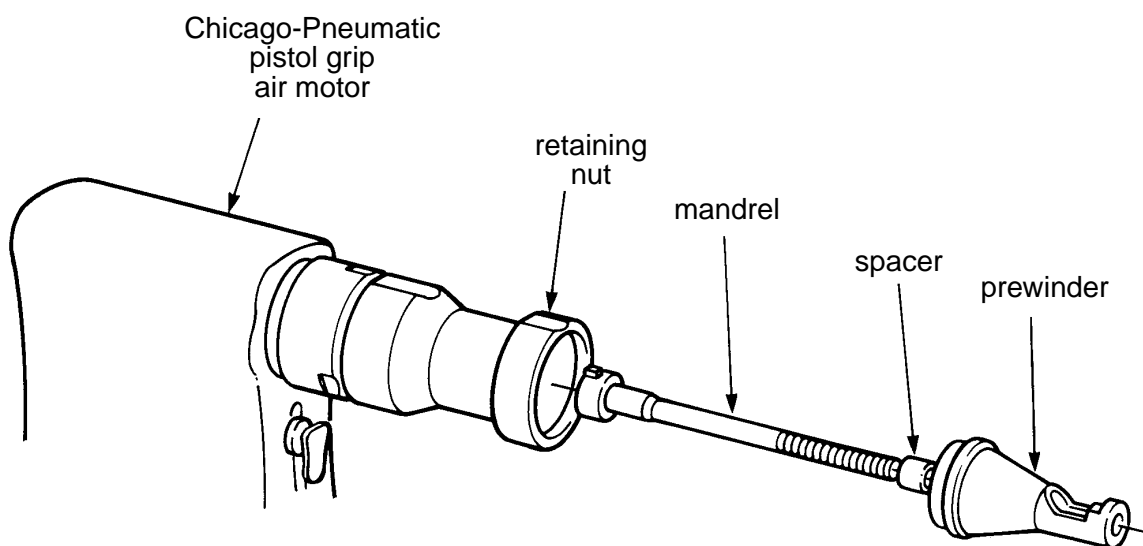

Figure 4 - Assembly Arrangement of Power Inserting Tool
- Step 3. Assemble the spacer, mandrel and prewinder onto power tool as shown in Figure 4. Secure the front end assembly to the tool with the retaining nut.